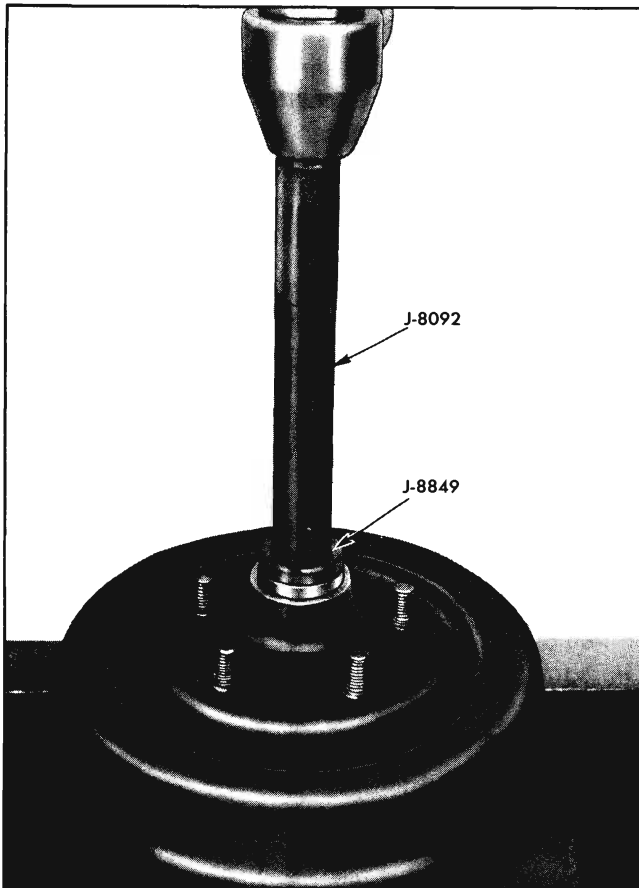
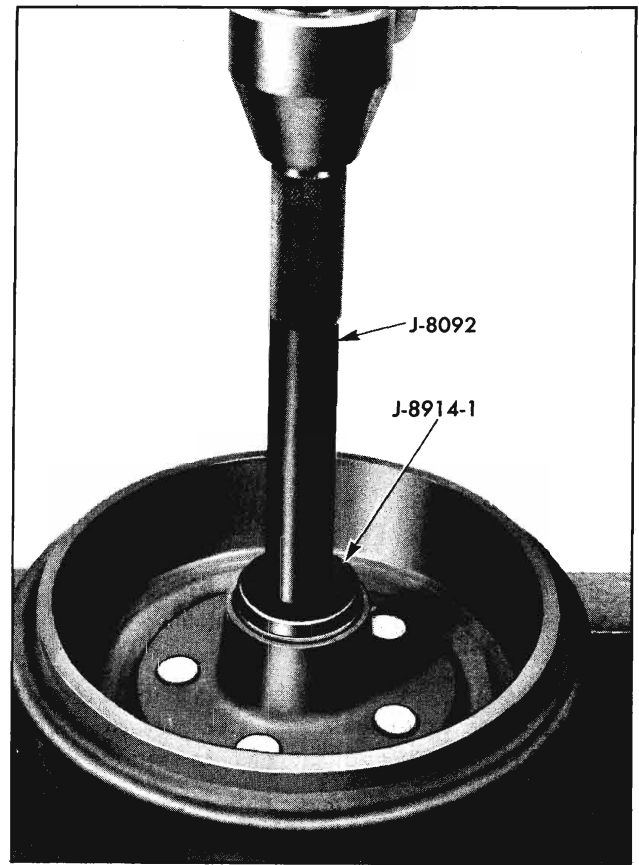

Fig. 3-13 Installing Outer Race in Hub
Fig. 3-14 Installing Inner Race in Hub
3. Install new bearing cup in hub using Tool J-8849 (Fig. 3-13) on the outer race and Tool J-8914 (Fig. 3-14) on the inner race. Tool J-8092 Driver Handle must be used with the above installers.